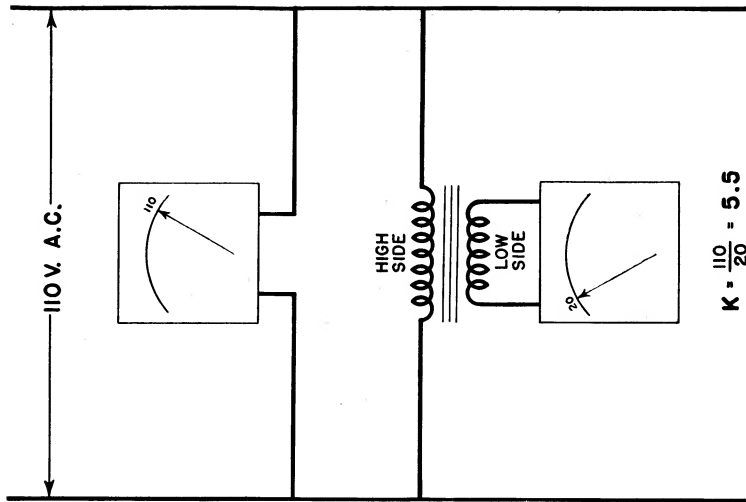

Fig. 4
Transformer Multipliers. On AC voltmeters only a transformer may be used as a voltmeter multiplier. To obtain the constant (K) for such a multiplier, read a voltage with and without the transformer multiplier in circuit. Divide the reading taken without the multiplier transformer in use by the reading with the multiplier transformer in use to obtain the (K). (See Figure 4.) To obtain the true voltage when using the multiplier with this same voltmeter, multiply